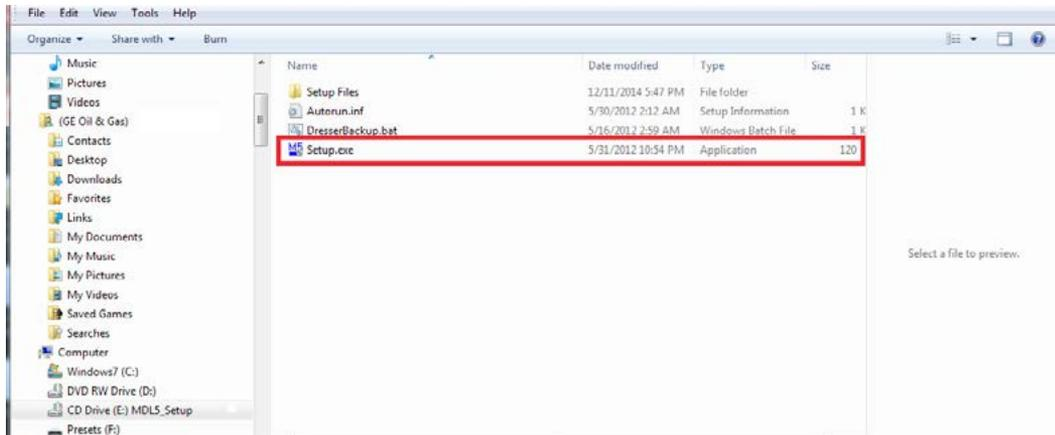

Figure 33: Select Setup.exe
- From within the MDL5_Setup folder, select "Setup.exe" as shown in **Figure 33**.
- The following screen will appear as shown in **Figure 33**. Select "OK". By selecting "OK", the former version of software will be moved into a backup folder.